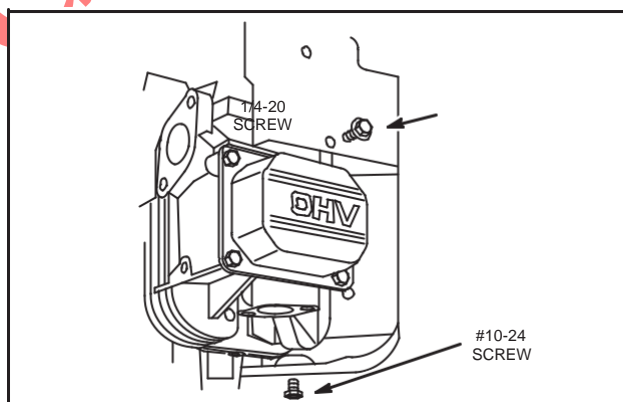

Fig. 28 – Install Cylinder Shield
2. Install No. 2 cylinder shield, Fig. 28.